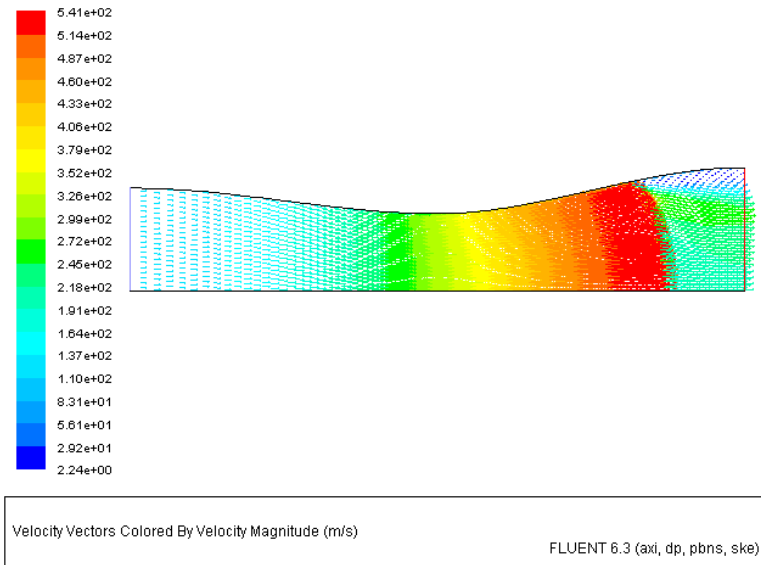

Figure 7.5: Velocity Vectors
2. Display velocity vectors (Figure 7.5).